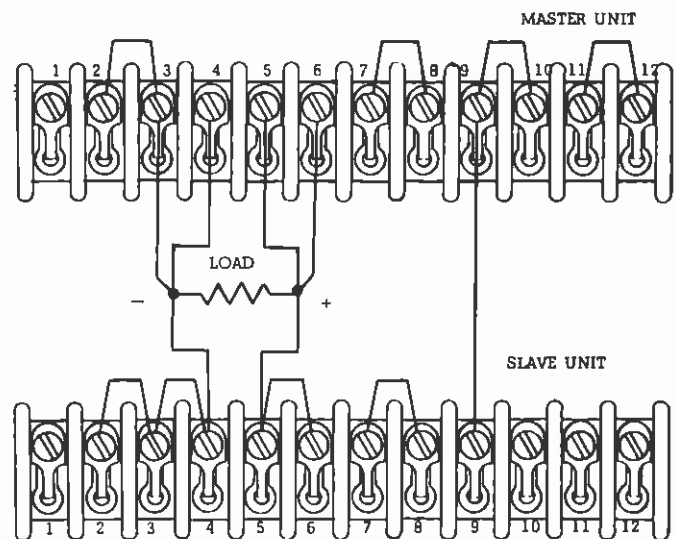

Figure 3-7. Parallel Operation
a. Apply nominal input power to master unit (see Figure 3-7), adjust output voltage to desired load voltage and then set PWR switch to off.